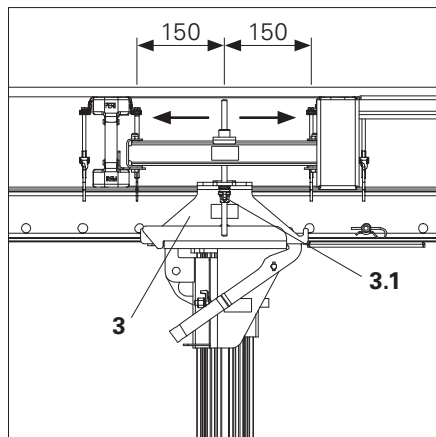

Fig. B3.02
1. Support the slab table (1) with temporary props.
3. After ensuring that the working area is safe, loosen the mini nuts (3.1) and move the Table Head Middle Part VD (3).
5. Remove temporary props. (Fig. B3.02)